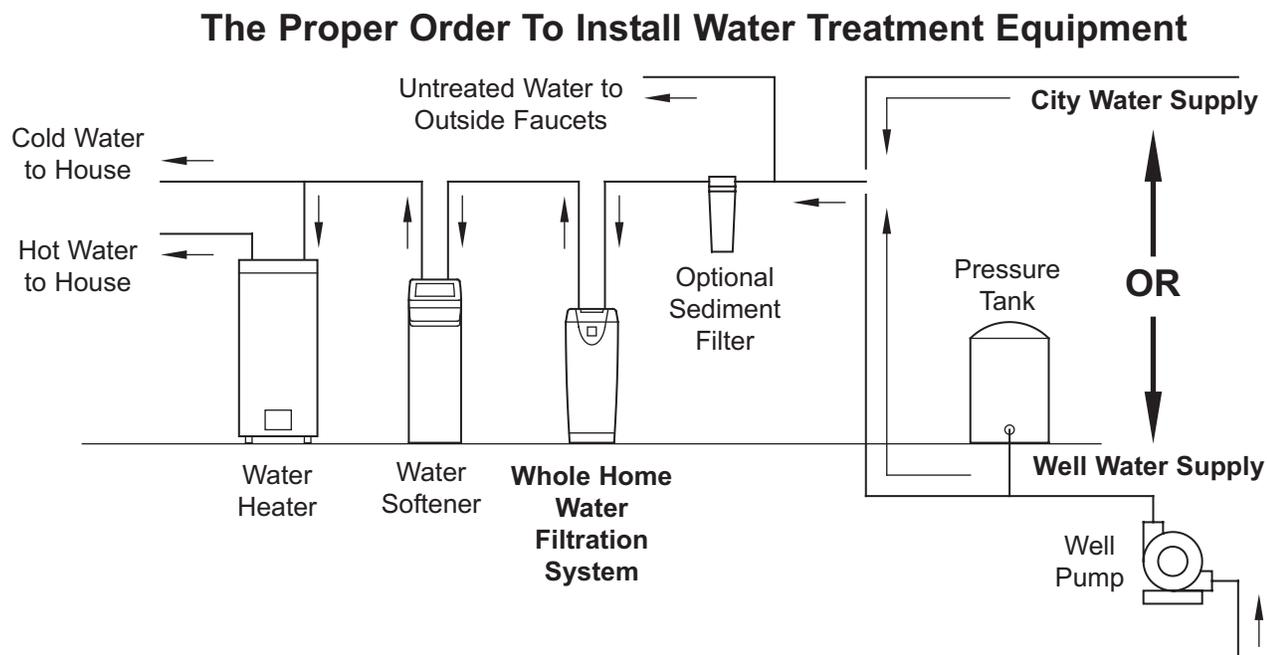

FIG. 3
- Install the Whole Home Water Filtration System between the home's incoming water supply and the water softener, if one is being used (See Figure 3).
- Do not install the Whole Home Water Filtration System on a hot water line (See Figure 3, below).